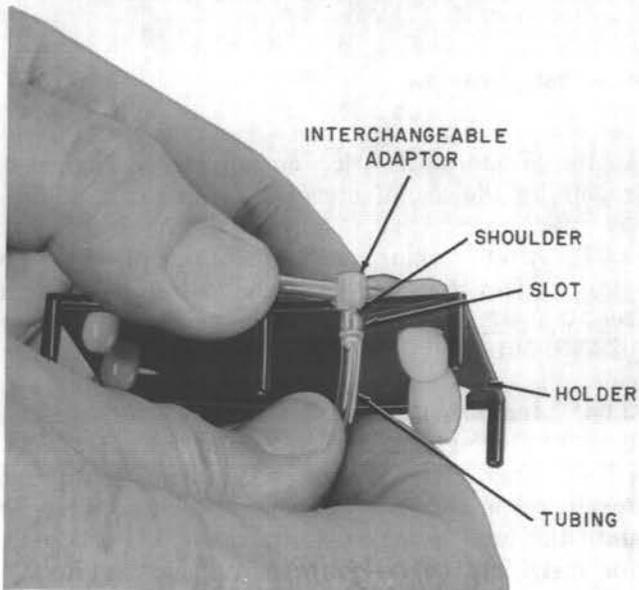

Fig. 4—Adaptor in Holder Slot for Removal of Earpiece Assembly
3.07 ♦Interchangeable Adaptor: To remove adaptor from the earpiece assembly, wedge the adaptor in the slot of the holder with the slot edges between the adaptor shoulder and the end of the tube (Fig. 4). Work the tubing off the adaptor shaft with the fingers. It may also be removed by inserting the finger nails between the adaptor shoulder and the end of the tubing. **Do not elongate the tubing.** Work the tubing of the replacement earpiece assembly onto the adaptor shaft with the fingers until the end of the tubing is tight against the adaptor shoulder.♦